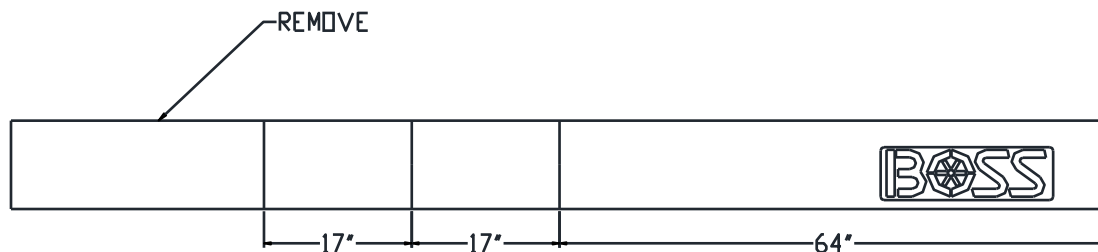

Figure 11. Belting Cut Length
1. Cut Belting (1) into three pieces. Use the dimensions specified in Figure 11.